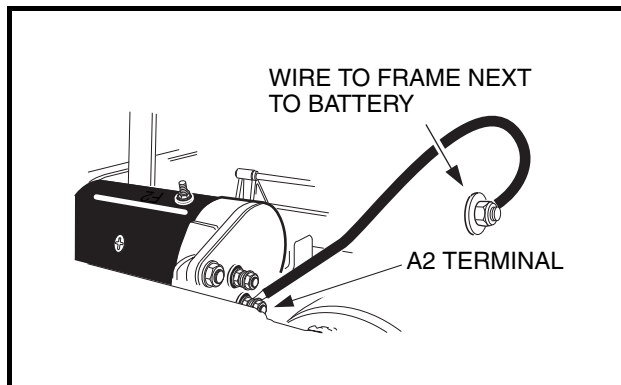

Figure 11-8 Test Starter/Generator Ground Strap
- 3.1. Set the multimeter to 200 ohms. Place the red (+) probe on the (A2) terminal of the starter/generator and place the black (-) probe on the vehicle frame (**Figure 11-8, Page 11-14**). The reading should be continuity. If the reading is incorrect, clean and tighten wire connections. If the connections are good and the reading is incorrect, repair or replace the wire.